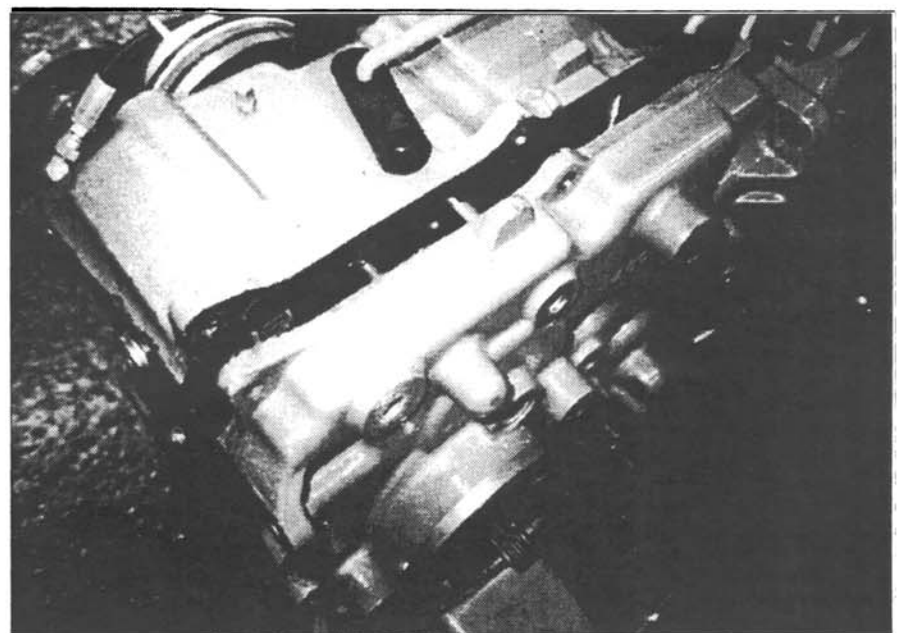

FIGURE 12
20. Clean paint and debris off the exposed part of #1, #6, and #8 shafts. Tap the cover with a soft hammer and pry off with two screwdrivers or pry bars. Tap #1, #6, and #8 shafts, and the PTO yoke shaft as the cover is worked off. See Figure 12.